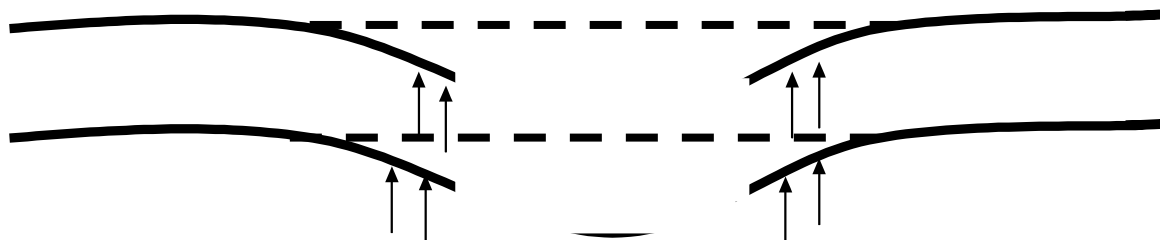

Fig. 3
- ii. The rail on left hand side as well as right hand side, will be cut at two places to ensure that the gap may not less than 4.(Fig. 3)
- iii. Put back the normal alignment. (Fig. 3)